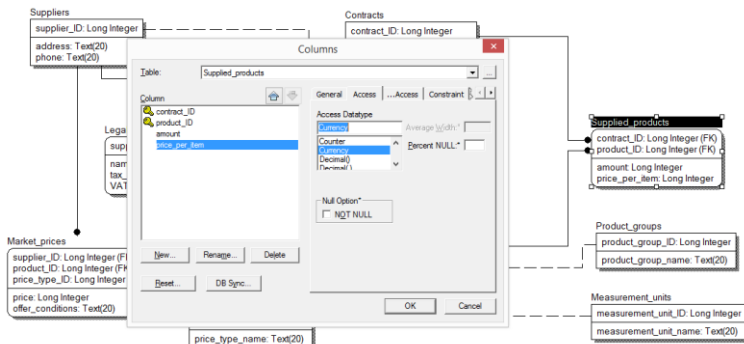

Figure 28
- 2) Select “price_per_item” field and select data type “Currency” on the “Access” tab (figure 28);